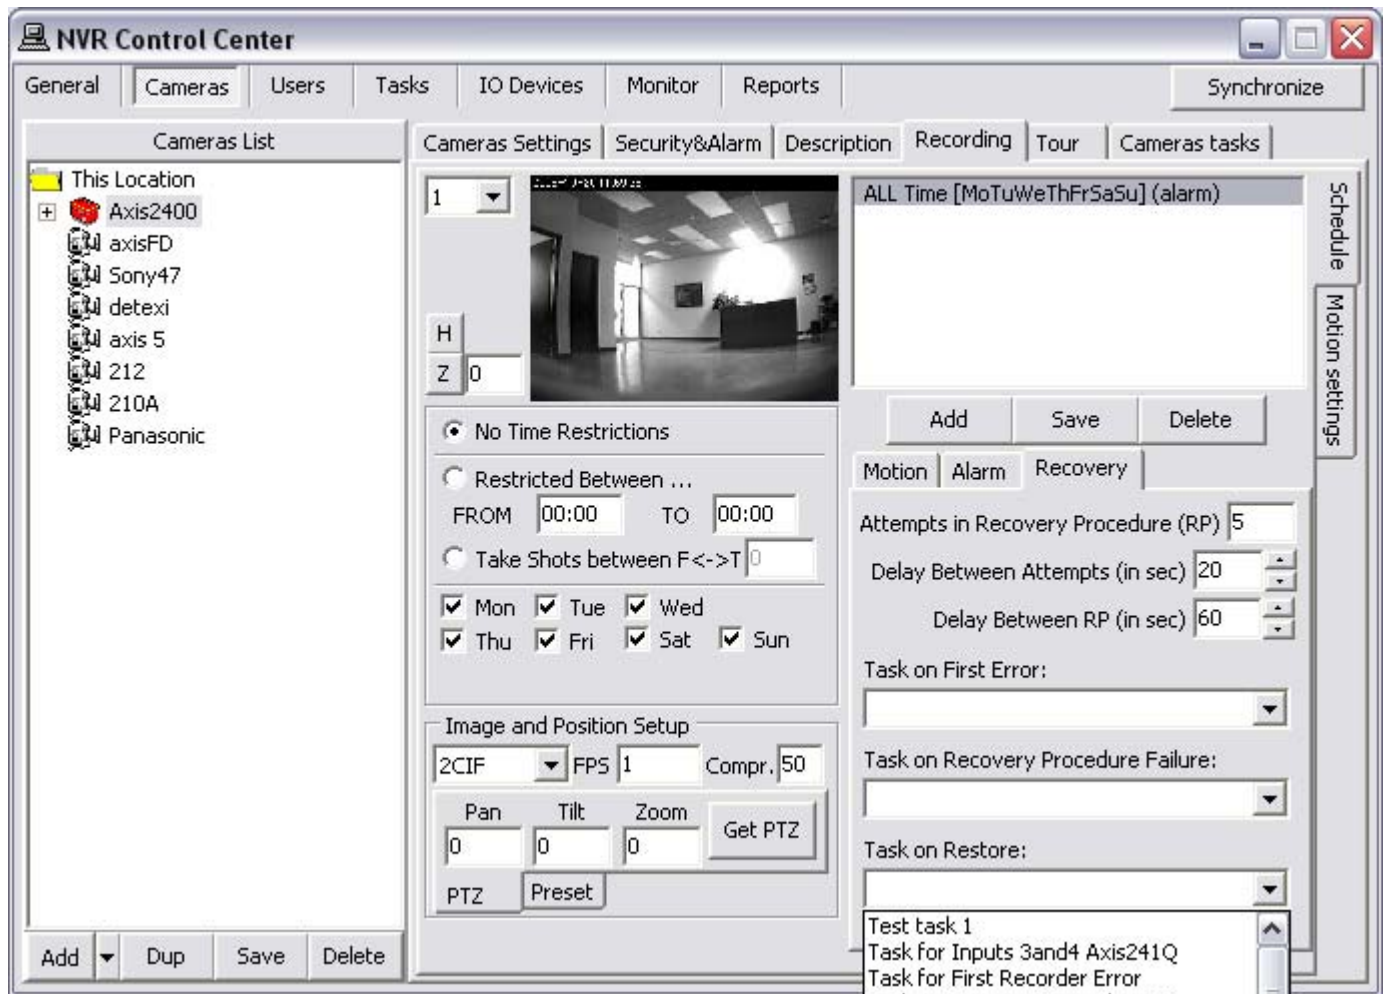

Fig 105. NVR Control Center — Cameras — Recording — Schedule — Recovery
1. In the **NVR Control Center — Cameras** select camera from the **Cameras List** and go to the **Recording — Schedule** (Fig 105).